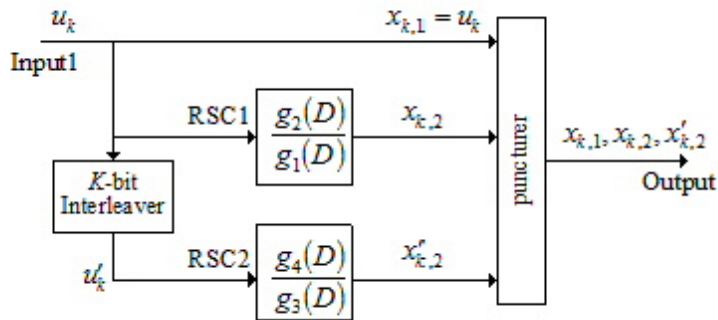

Fig.1 Turbo Coder with PCCC
2. Turbo Coder Structure: Fig.1 shows the diagram of Turbo Coder with PCCC. The encoder consists of two recursive systematic convolutional (RSC) encoders with rate 1/2 which are separated by an  $K$ -bit interleaver, together with an optional puncturing procedure. For details of the encoder, please refer to the model **Turbo Coder with PCCC**.